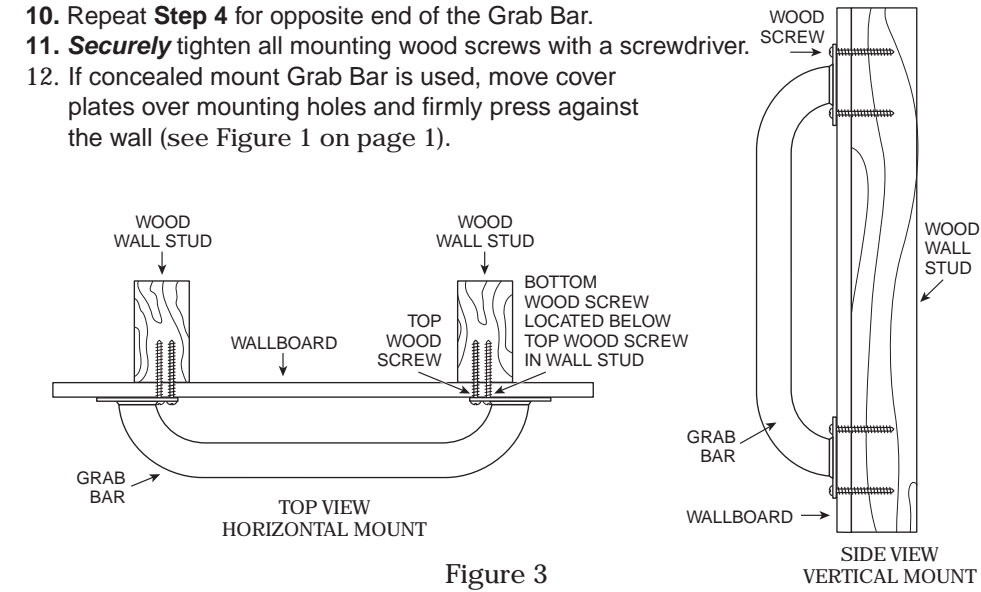

Figure 3
9. Insert the wood screws provided into one end of the Grab Bar. Screw into wall and wall stud (**HAND TIGHTEN ONLY**) (see Figure 3).